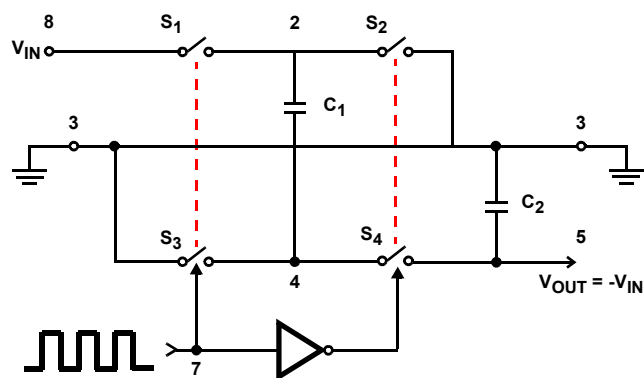
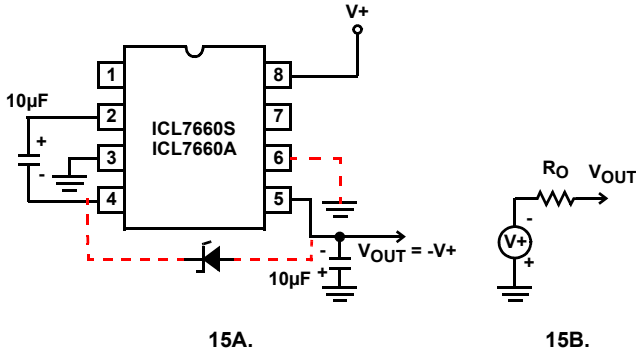
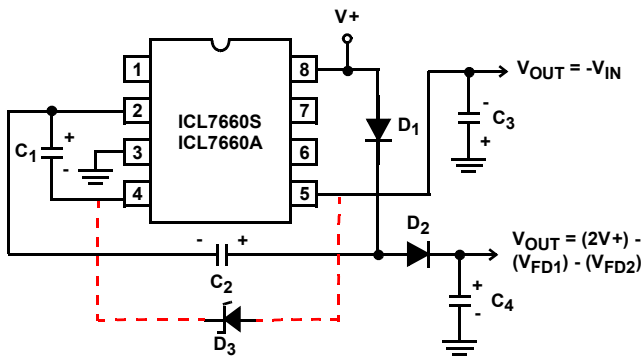
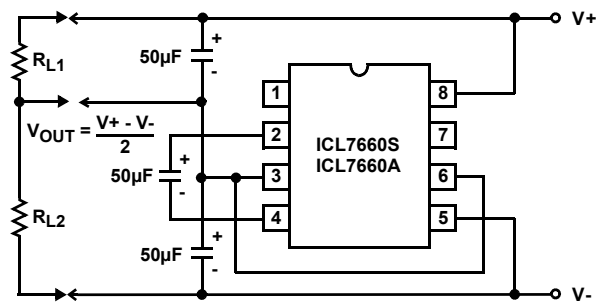

FIGURE 14. IDEALIZED NEGATIVE VOLTAGE CONVERTER
FIGURE 15. SIMPLE NEGATIVE CONVERTER AND ITS OUTPUT EQUIVALENT
FIGURE 19. COMBINED NEGATIVE VOLTAGE CONVERTER AND POSITIVE DOUBLER
FIGURE 20. SPLITTING A SUPPLY IN HALF
The ICL7660S and ICL7660A contain all the necessary circuitry to complete a negative voltage converter, with the exception of two external capacitors, which may be inexpensive 10 μ F polarized electrolytic types. The mode of operation of the device may best be understood by considering Figure 14, which shows an idealized negative voltage converter. Capacitor C_1 is charged to a voltage, V_+ , for the half cycle, when switches S_1 and S_3 are closed. (Note: Switches S_2 and S_4 are open during this half cycle). During the second half cycle of operation, switches S_2 and S_4 are closed, with S_1 and S_3 open, thereby shifting capacitor C_1 to C_2 such that the voltage on C_2 is exactly V_+ , assuming ideal switches and no load on C_2 . The ICL7660S and ICL7660A approach this ideal situation more closely than existing non-mechanical circuits.
In the ICL7660S and ICL7660A, the four switches of Figure 14 are MOS power switches; S_1 is a P-Channel device; and S_2 , S_3 and S_4 are N-Channel devices. The main difficulty with this approach is that in integrating the switches, the substrates of S_3 and S_4 must always remain reverse biased with respect to their sources, but not so much as to degrade their “ON” resistances. In addition, at circuit start-up, and under output short circuit conditions ($V_{OUT} = V_+$), the output voltage must be sensed and the substrate bias adjusted accordingly. Failure to accomplish this would result in high power losses and probable device latch-up.
where V_1 and V_2 are the voltages on C_1 during the pump and transfer cycles. If the impedances of C_1 and C_2 are relatively high at the pump frequency (see Figure 14) compared to the value of R_L , there will be a substantial difference in the voltages, V_1 and V_2 . Therefore it is not only desirable to make C_2 as large as possible to eliminate output voltage ripple, but also to employ a correspondingly large value for C_1 in order to achieve maximum efficiency of operation.
The majority of applications will undoubtedly utilize the ICL7660S and ICL7660A for generation of negative supply voltages. Figure 15 shows typical connections to provide a negative supply where a positive supply of +1.5V to +12V is available. Keep in mind that pin 6 (LV) is tied to the supply negative (GND) for supply voltage below 3.5V.
The output characteristics of the circuit in Figure 15 can be approximated by an ideal voltage source in series with a resistance as shown in Figure 15B. The voltage source has a value of $-(V_+)$. The output impedance (R_O) is a function of the ON resistance of the internal MOS switches (shown in Figure 14), the switching frequency, the value of C_1 and C_2 , and the ESR (equivalent series resistance) of C_1 and C_2 . A good first order approximation for R_O is shown in Equation 2:
Figure 19 combines the functions shown in Figure 15 and Figure 18 to provide negative voltage conversion and positive voltage doubling simultaneously. This approach would be suitable, for example, for generating +9V and -5V from an existing +5V supply. In this instance, capacitors C_1 and C_3 perform the pump and reservoir functions, respectively, for negative voltage generation, while capacitors C_2 and C_4 are pump and reservoir, respectively, for the doubled positive voltage. There is a penalty in this configuration which combines both functions, however, in that the source impedances of the generated supplies will be somewhat higher, due to the finite impedance of the common charge pump driver at pin 2 of the device.
The bidirectional characteristics can also be used to split a high supply in half, as shown in Figure 20. The combined load will be evenly shared between the two sides, and a high value resistor to the LV pin ensures start-up. Because the switches share the load in parallel, the output impedance is much lower than in the standard circuits, and higher currents can be drawn from the device. By using this circuit, and then the circuit of Figure 15, +15V can be converted, via +7.5 and -7.5, to a nominal -15V, although with rather high series output resistance (~250Ω).